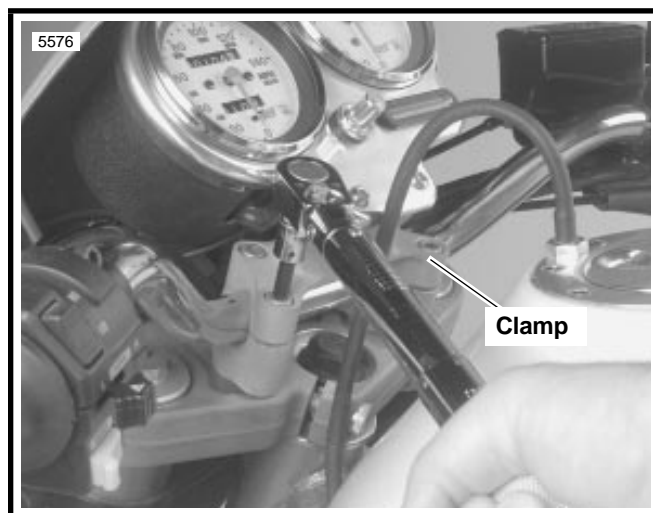

Figure 1-47. Adjusting Handlebars
3. See Figure 1-47. Loosen clamp screws.